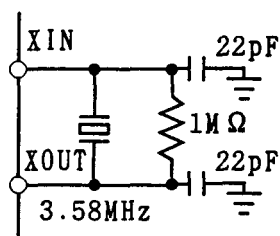

Fig.3
- Crystal resonator, resistor and capacitors should be connected as shown Fig.3 for on-chip oscillator operation.